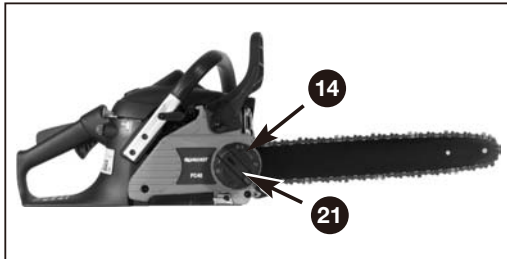

Fig. 4
1. Hold nose of guide bar up and turn adjustment chain ring **14** CLOCKWISE to increase chain tension. Turning chain ring **14** COUNTERCLOCKWISE will decrease amount of tension on chain. Ensure the chain fits snugly all the way around the guide bar. (Fig.4)
2. After making adjustment, and while still holding nose of bar in the uppermost position, tighten the bar retaining button **21** securely. Chain has proper tension when it has a snug fit all around and can be pulled around by gloved hand. (Fig.4)